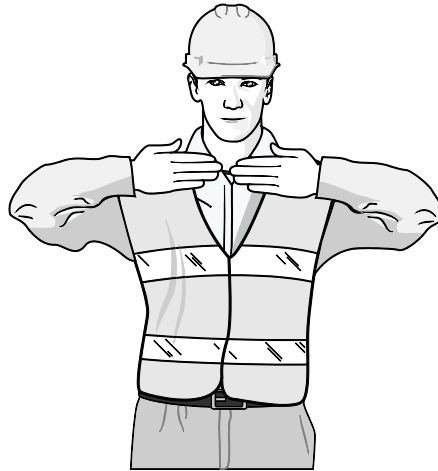

Figure 3-128
25. Perform this signal to indicate Unlock Twistlocks or Unlock Load (see Figure 3-128).